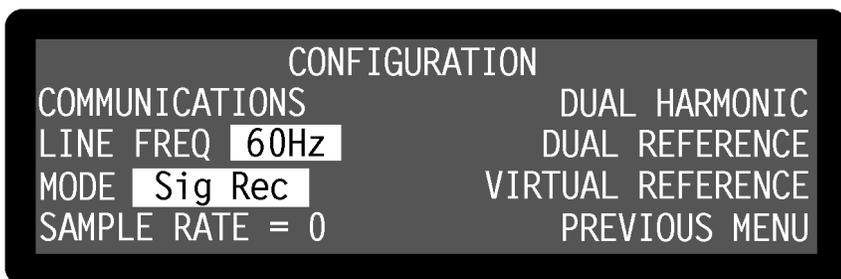

Figure 2-8, Configuration Menu
- 4) Press one of the keys adjacent to the Configuration menu item to enter the Configuration menu, shown below in figure 2-8.
- 5) The present line frequency setting is shown in reversed text adjacent to the "Line Freq" label and is either 50 or 60 Hz. In figure 2-8, the filter is set to 60 Hz. If this setting does not match the prevailing line frequency, then press a key adjacent to this item once to change it.